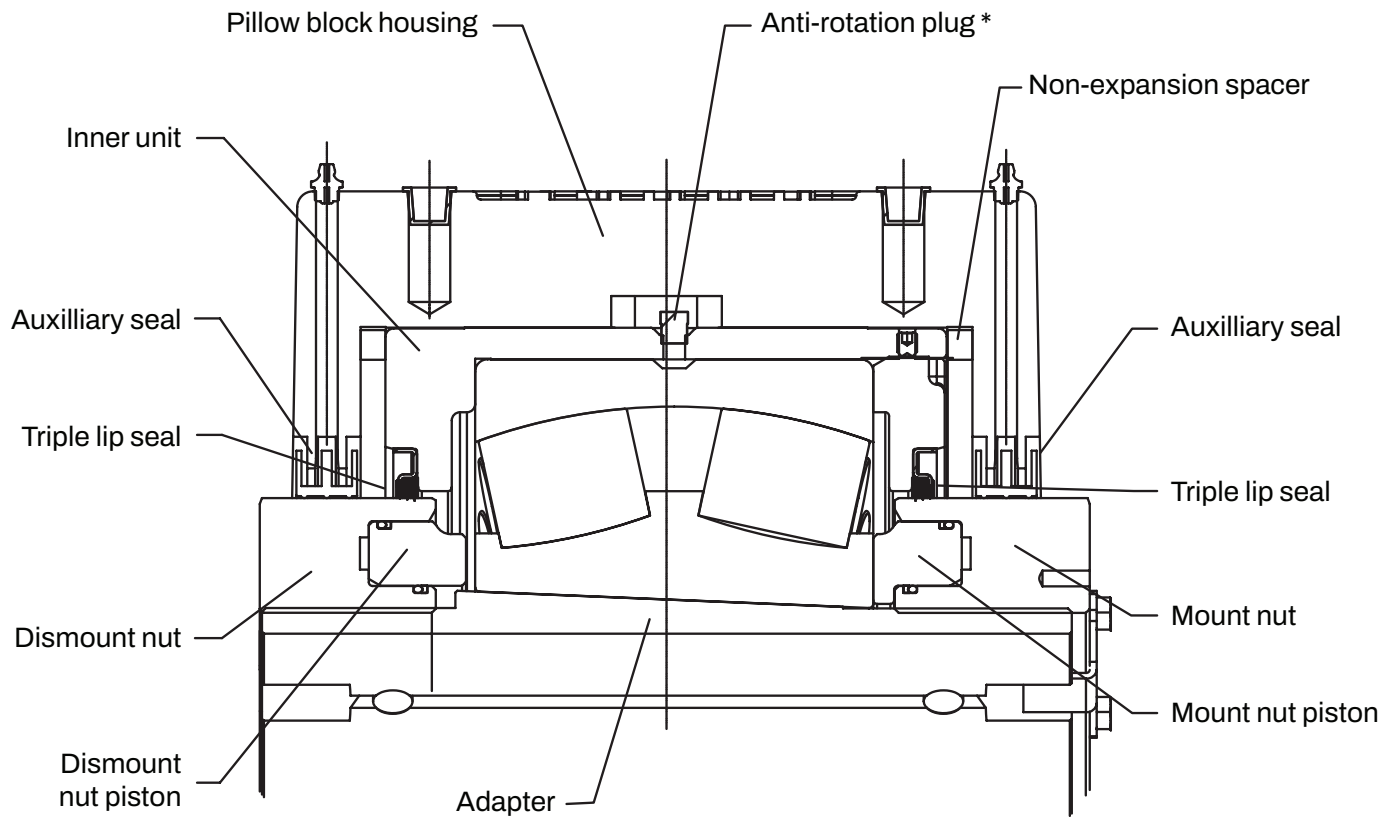

Figure 3 - Cross Section
4. Rotate Dismount Nut counter clockwise two full rotations. The Dismount Nut must remain loose during the mounting procedure but should never be removed. Without loosening the dismount nut, the dismount nut piston will make contact with the bearing unit as it travels up the adapter. (See Figure 3) This will not allow the bearing to move up the adapter and tighten properly.
4. Incorporating a spanner or drift and hammer, rotate the Mount Nut counter clockwise two full rotations. The Mount Nut must remain loose during the dismounting procedure, but should never be removed. Without loosening the mount nut, the mount nut piston will make contact with the bearing unit as it travels down the adapter. (See Figure 3) This will not allow the bearing to move down the adapter and loosen from the shaft properly.